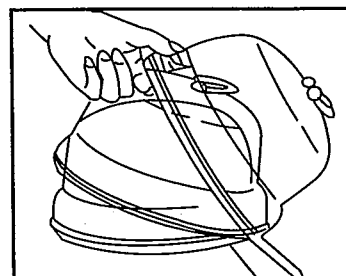

Figure 4
6. To make it easier to sit down under the Hood, press the Tilt Control Button and tilt the Hood upward (Fig. 4). Leaving the Hood in a high tilted position allows you to watch TV, read or talk with others more freely. Or, you may fully lower the Hood by pressing the Tilt Control Button and gently pulling the Hood down to the preferred position.